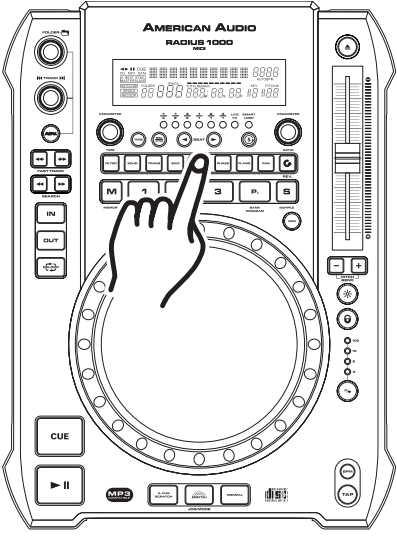

Figure 52
HOLD BUTTON: Use the *HOLD BUTTON (24)* to lock your customized parameters. If the hold button is not activated any changes to your parameters will be momentary. To activate the hold function press the *HOLD BUTTON (24)* as in figure 52. When the hold function becomes activated, the hold button will begin to glow blue.